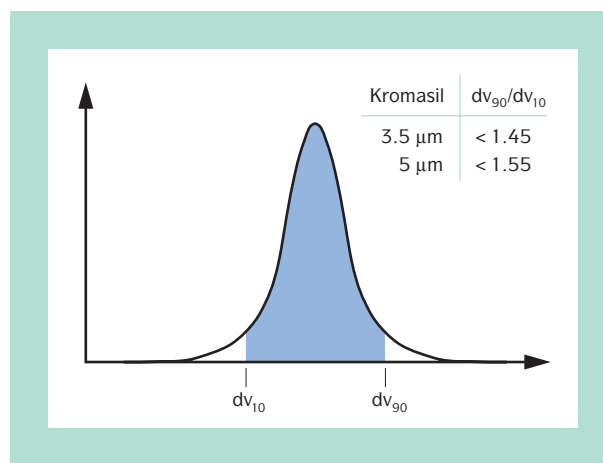

Figure 2 | Particle size distribution showing the dv_{90}/dv_{10} ratio.
order to define and secure a narrow particle particle size distribution we use the dv_{90}/dv_{10} ratio in our quality control (QC) procedure, figure 2.